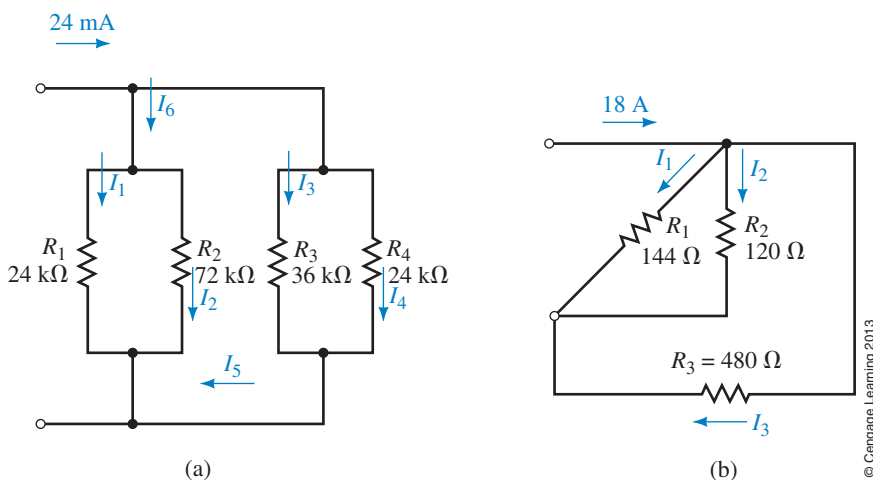

FIGURE 6–74
32. Repeat Problem 31 for the networks of Figure 6–74.
33. Use the current divider rule to determine the unknown resistance in the network of Figure 6–75.
34. Use the current divider rule to determine the unknown resistance in the network of Figure 6–76.